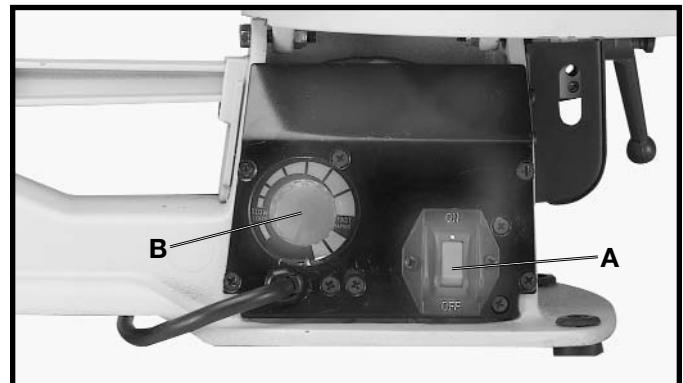

Fig. 17
The on-off switch (A) Fig. 17, and variable speed switch (B) is located on the right side of the scroll saw base, as shown. To turn the saw "ON," push the switch (A) up to the "ON" position. To turn the saw "OFF", push the switch (A) down to the "OFF" position.
The scroll saw is equipped with a variable speed control knob (B) Fig. 17. The variable speed range is 400 to 1800 strokes per minute. When the variable speed knob (B) Fig. 17, is rotated all the way to the left (counterclockwise) the speed will be 400 strokes per minute. To increase the speed, rotate knob (B) to the right (clockwise) until the desired speed is obtained. When the knob (B) is rotated all the way to the right (clockwise) the speed will be 1800 strokes per minute.